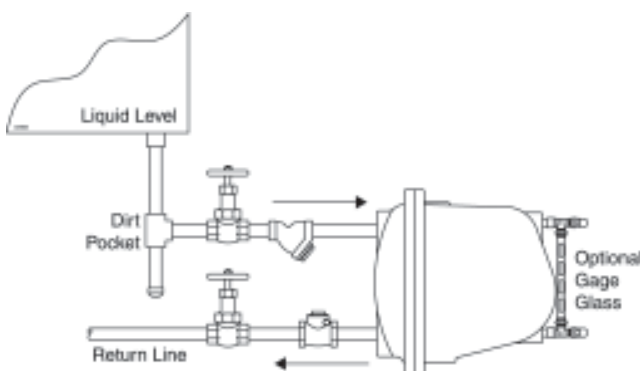
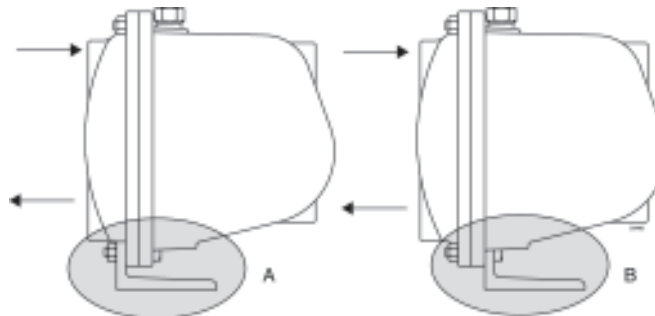

Figure 1
Figure 5
- A) **Float and Thermostatic Steam Trap.** Install the trap so that its inlet connection is below the liquid level in the equipment to be drained. Figure 1 shows the recommended piping method.
- B) **Condensate Controller.** Install the condensate controller below the liquid level in the equipment to be drained. Its ability to handle flash steam enables the condensate controller to operate efficiently with syphon tube drainage systems. Figure 1 shows the recommended piping method.
- 3) Set the unit as shown in Figure 1 or 2, with the flange resting on the floor or on a platform for support. Then install and tighten the inlet and discharge piping to secure the unit in its operating position. **If the line pressure exceeds 30 psig**, install an anchoring bracket as shown in Figure 5 (a) and (b).
Note: Use good piping practices. Make inlet piping as short as possible with a minimum of elbows and other restrictions. Install a dirt pocket in the line ahead of the unit as shown in Figures 1 and 2.